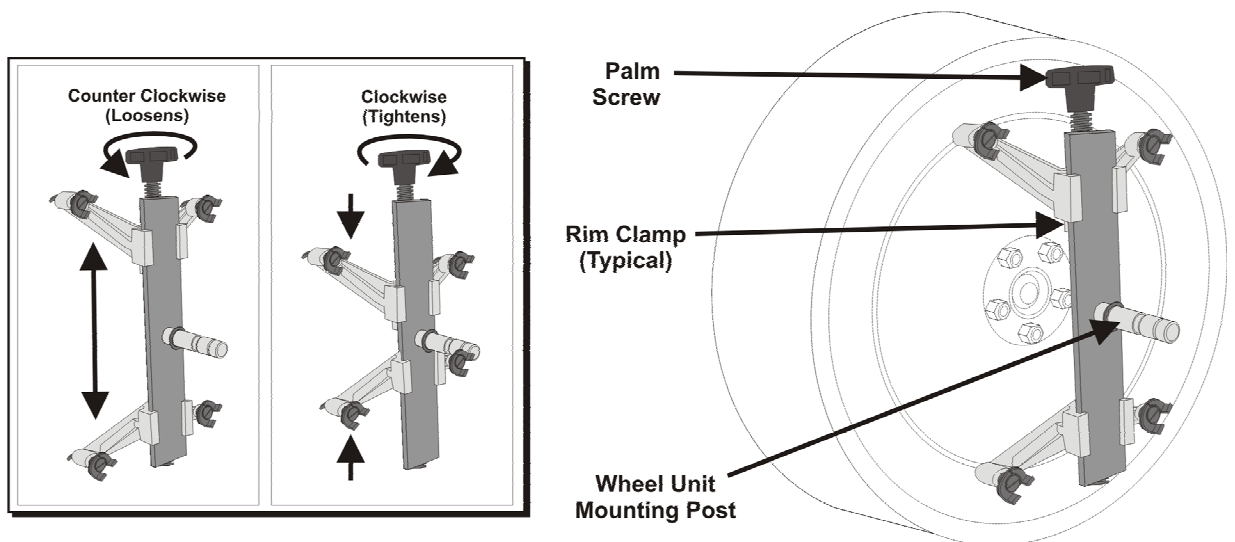

Figure 2-1. Rim Clamp - Typical
2.3.1 A Rim Clamp is a mechanical device, used to grip the rim of a vehicle wheel and provide a mounting stud for a wheel unit. Refer To Figure 2-1, as necessary.